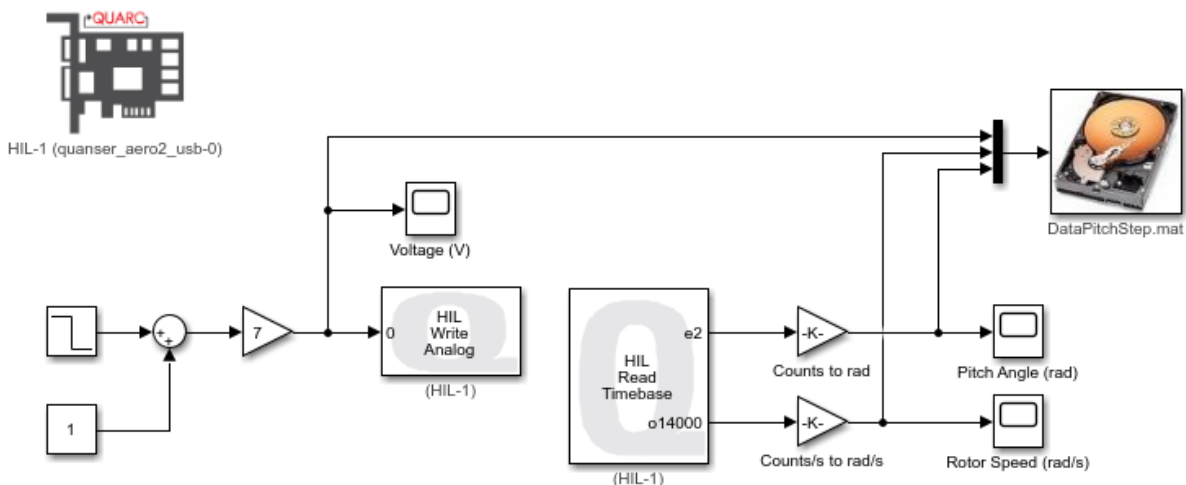

Figure 1 – q_aero2_pitch_step.slx Simulink model
2. Open the the *q_aero2_pitch_step.slx* Simulink model as in Figure 1 above.